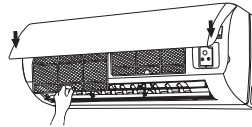

Fig.18
- (3) Mount the air filter properly along the arrow direction in Fig.18, and then close the panel cover.